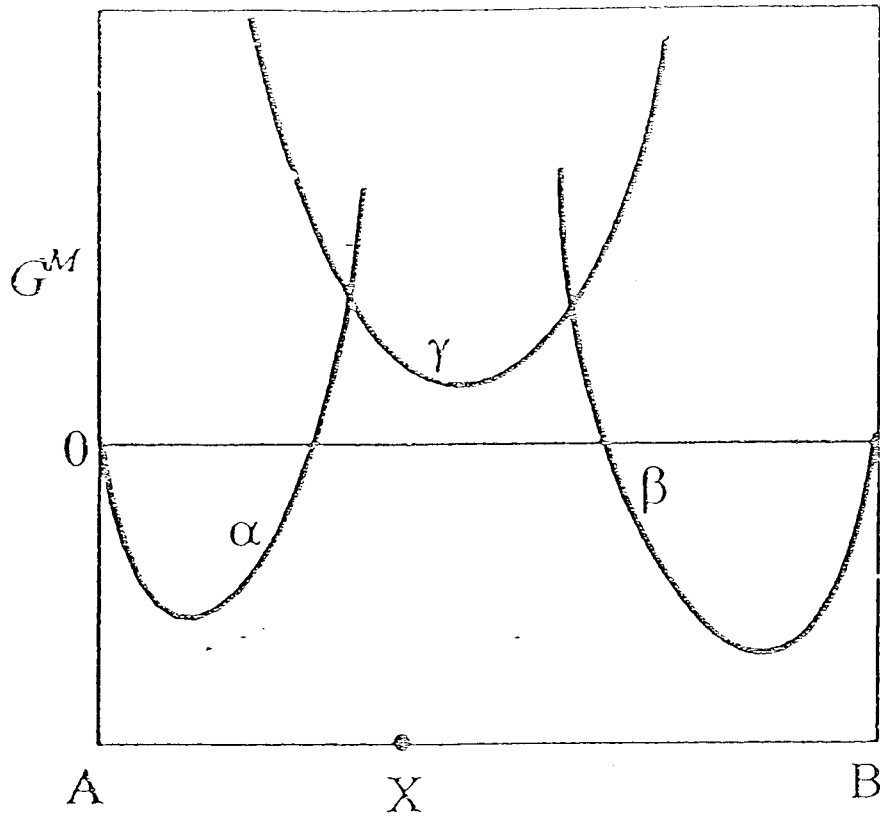

Figure 1
1. Shown in Figure 1 below is the free energy of mixing versus composition of the A-B binary system at the temperature T and the pressure P. The diagram shows two terminal phases  $\alpha$  and  $\beta$ , and one intermediate phase  $\gamma$ . If the overall composition of the system is given by point X shown in the diagram, find the stable equilibrium phase(s) at T and P.